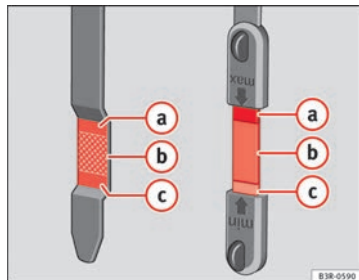

Fig. 166 Markings on oil dipstick
- Then pull it out once more and check the oil level ⇒ fig. 166. If the oil level is too low, add more engine oil ⇒ page 225.